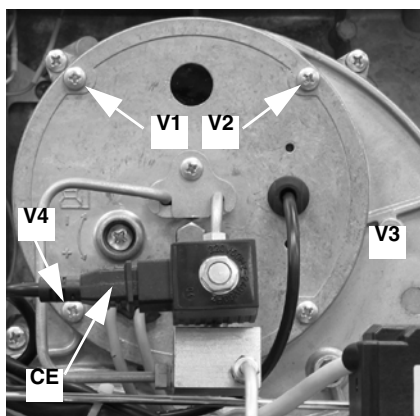

Fig. 41
- Remove the 4 screws **V1 - V4** shown in Fig. 41.
- Reassemble the combustion head and tighten the 4 screws **V1 - V4** (Fig. 41).